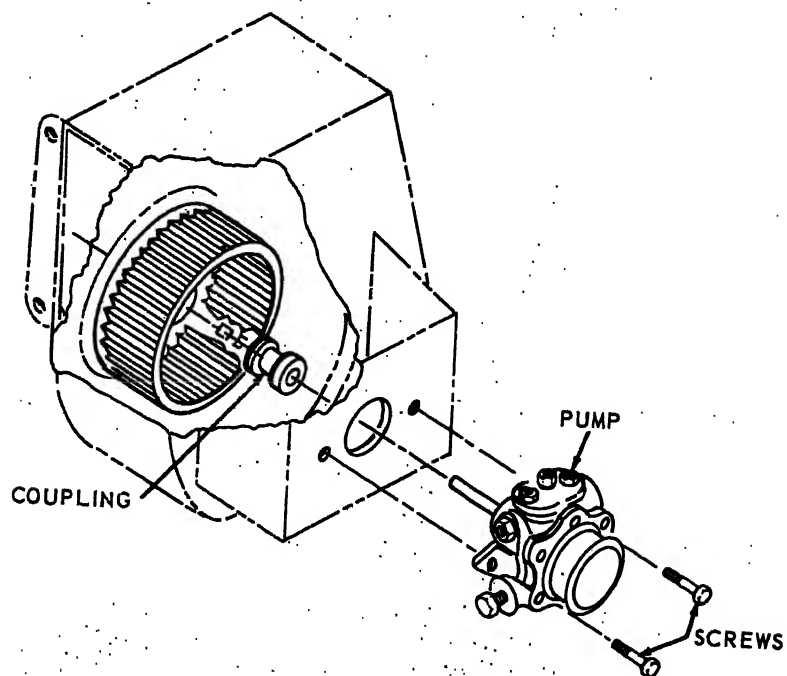

FIGURE 42. FUEL PUMP DISASSEMBLY
- a. Removal. Refer to Fig. 42 and remove the fuel pump.
- c. Installation. Refer to Fig. 42 and install the fuel pump.